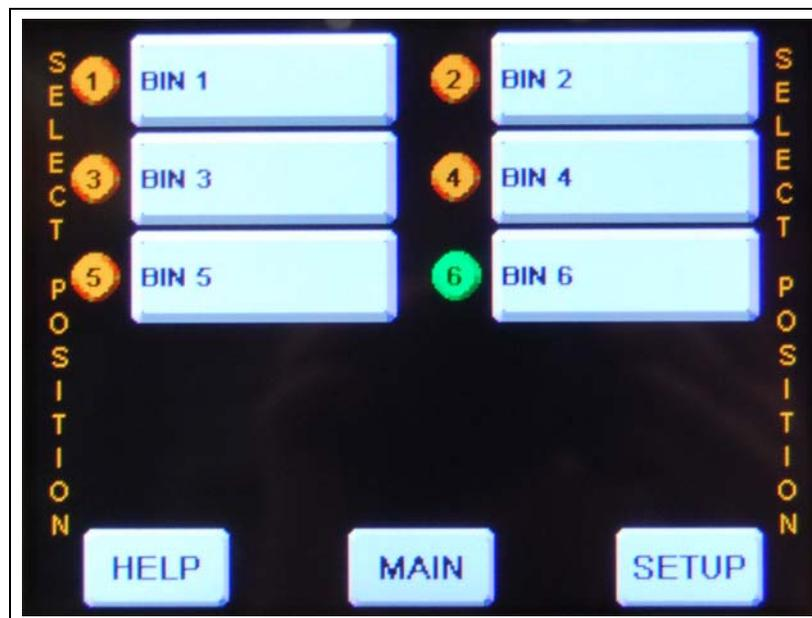

Figure 4J Move Screen
This screen allows the user to change the distributor's current spout position. The green highlighted spout number indicates the current selection. A spout number with a red circle with a line through it indicates a position that is currently locked out. (See "Position Lock-Out Screen" on Page 42.) (See Figure 4J.)
1. From the “Main” screen or the “Setup Menu” select “MOVE” to view the “Move Position” screen. *(See Figure 4J on Page 35.)*
**NOTE:** *In the following steps, the distributor must be in a position to view the spout location in the distributor to verify that it lines up correctly. If the distributor is installed above ground level, two (2) people will be needed; one to verify the alignment of the distributor spout and one to operate the controller.*